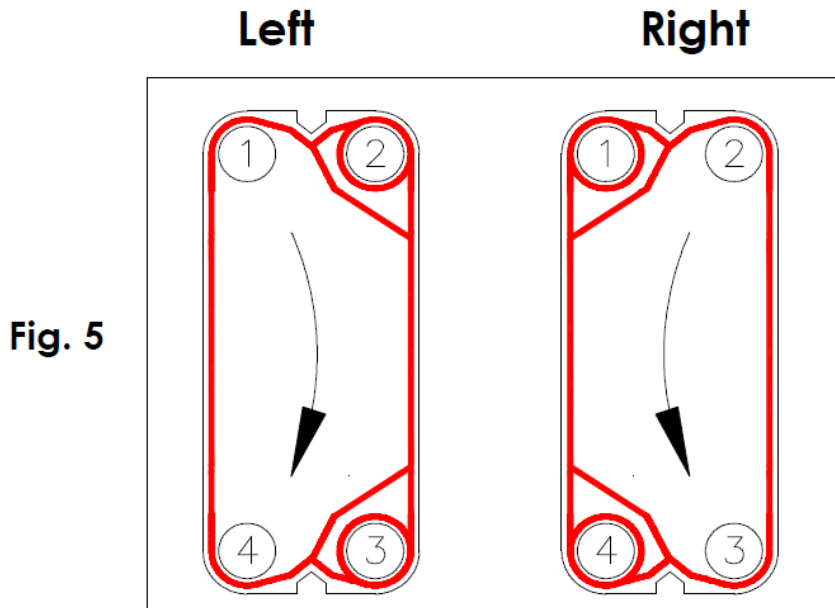

Fig. 5
- On the right plate the fluid flows from connection 2 to 3, or from 3 to 2 (Fig 5.).
- On the left plate the flow is from 1 to 4 or from 4 to 1 (Fig 5.).